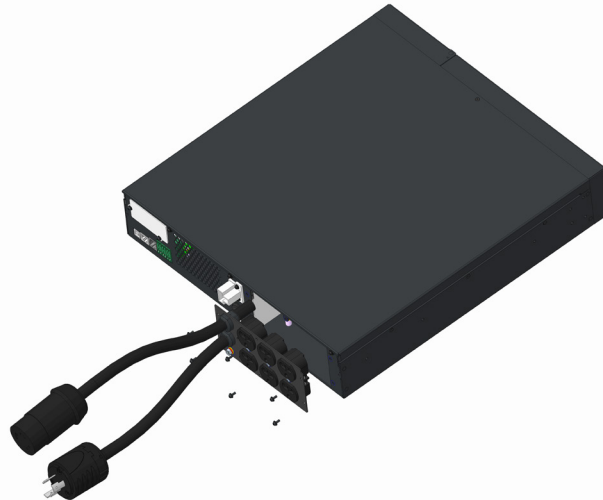

Figure 4: Remove Cord and Receptacle Plate
1. Remove and retain the 6 screws to remove the cord and receptacle plate (Figure 4).